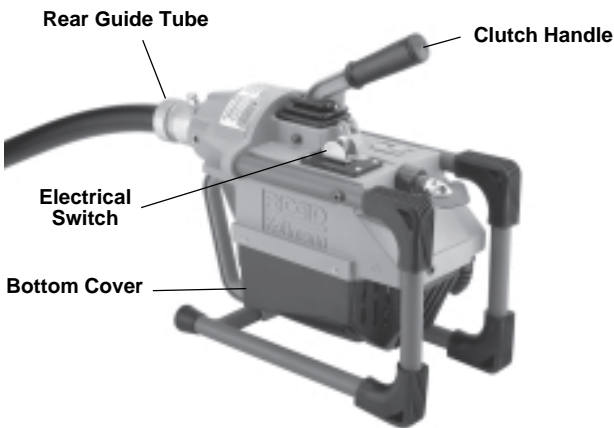

Figure 3 – K-60SP Drain Cleaner
1. Make sure the Drain Cleaning Machine is unplugged and the directional switch is set to the **OFF** position (Figure 3).